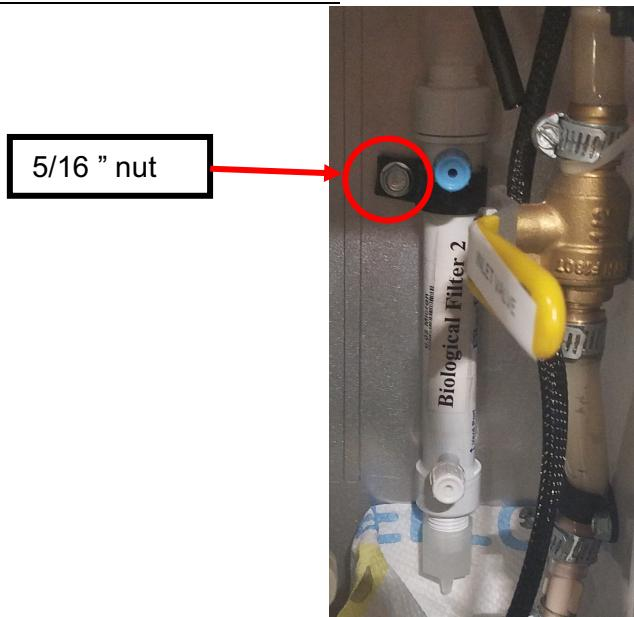

Figure 4: Installed Biological Filter
- 2.4 Use nut driver with 5/16" nut to release prime biological filter from Electrolysis System (see Figure 4).
- 2.9 Attach clamp to the spare filter before bolting it back in. Make sure blue cap is on top. Verify nut on left side (see Figure 4).